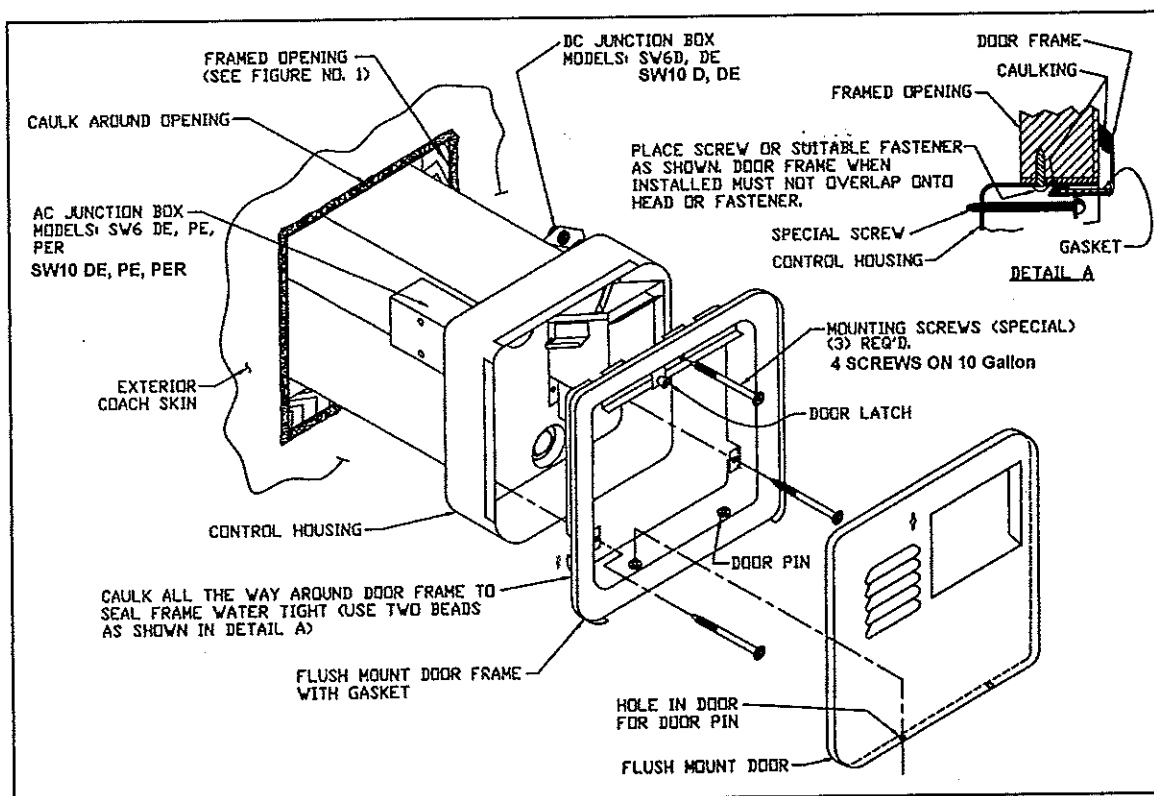

Figure 2
**E.** Caulk around framed opening as illustrated in Figure 2.
**F.** Caulk around door frame using 2 beads of silicone caulking (or suitable caulking) one on the flange to seal the control housing and one around back side of frame to seal to coach skin. (See detail A in Figure 2)
**G.** Insert door frame into control housing and secure with four (4) No. 8-15 x 3 1/2" screws provided for 10 gallon applications and (3) No. 8-15 x 3 1/2" screws provided for 6 gallon applications.
- A.** Refer to Figure 2 for location of A.C. and D.C. junction box on specific models. All A.C. connections must be inside junction box.